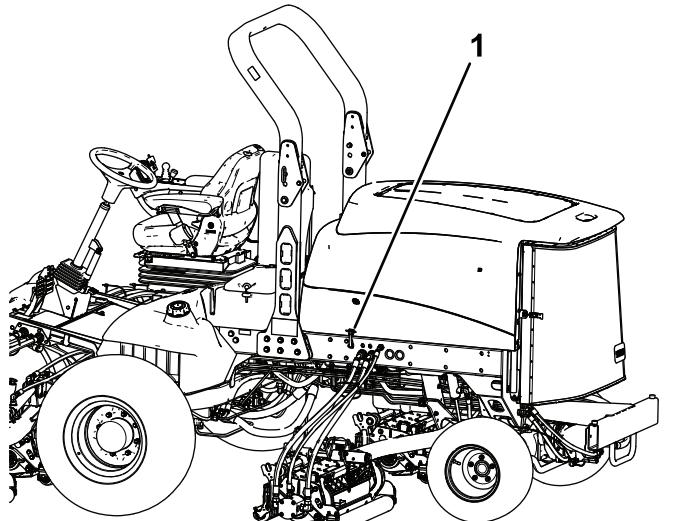

Figure 22
1. Unhook the hood latch from the hood-latch bracket (Figure 22).